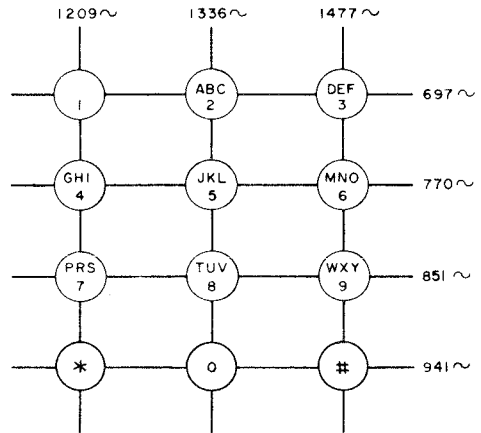

Fig. 3 – Dial Frequencies
1.06 Each pushbutton operates a different pair of frequency contacts which closes a path for 2 of the 7 output frequencies of the dial (Fig. 3). All pushbuttons operate the common switch which reduces side tone to the receiver, opens the transmitter path, applies bias voltage to the transistorized oscillator, and breaks the DC path to the tank coils.